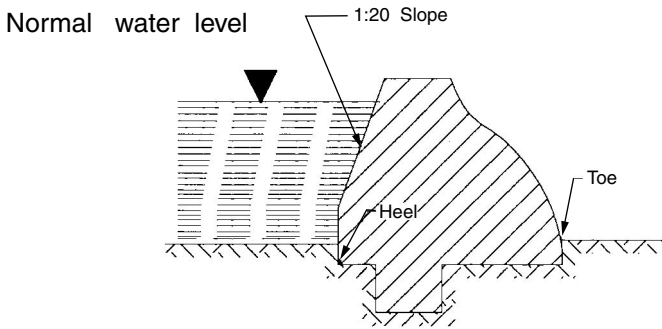

FIGURE G-1 Gravity dam (cross section).
**Gravity dam** A concrete or rubble masonry dam that depends on its own weight for stability against overturning or sliding horizontally. It has a nearly triangular transverse cross section. It is one of four common dam types. The other three types are arch, buttress, and embankment dams. *See* Figure G-1.